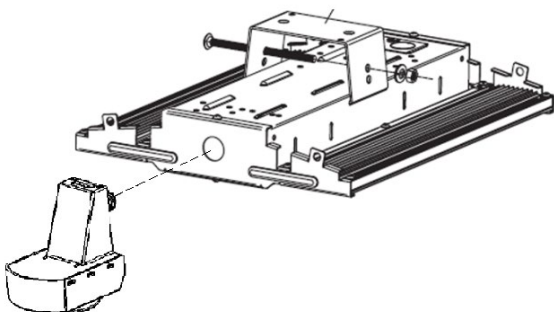

FIGURE 7 (LSXR SENSOR)
3. Install external occupancy sensor to fixture by snapping into end cap as shown in Figure 7 below.